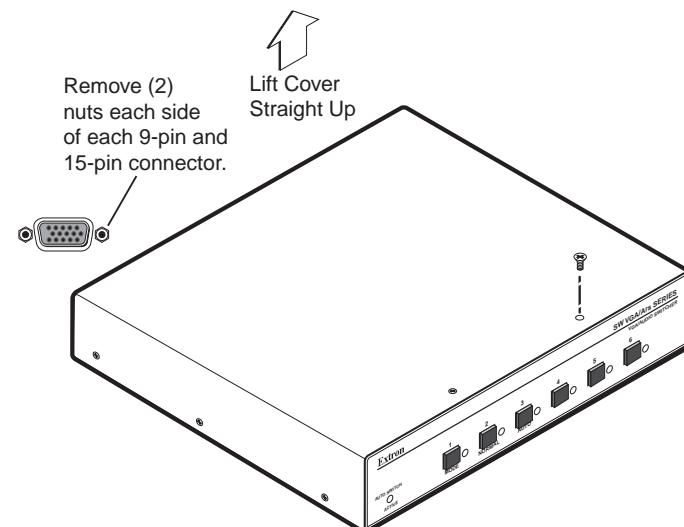

Figure 2-8 — Removing the cover
2. Remove the eight screws from the switcher (three on each side of the switcher and two on top) (figure 2-8). Remove the two connector nuts from the Remote connector (⑥ on figure 2-3 and figure 2-4) and each VGA connector (② and ④ on figure 2-3 and figure 2-4) on the rear panel of the switcher. Lift the top cover off of the switcher.